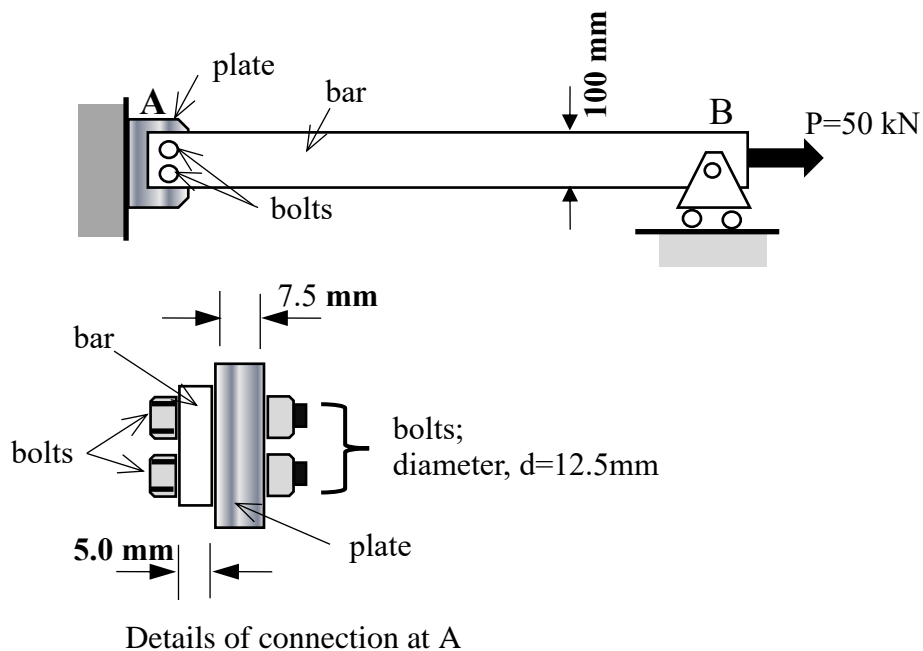

Figure 1 / Rajah 1
1. (a). For the problem of a bar loaded with load P as shown in **Figure 1**,